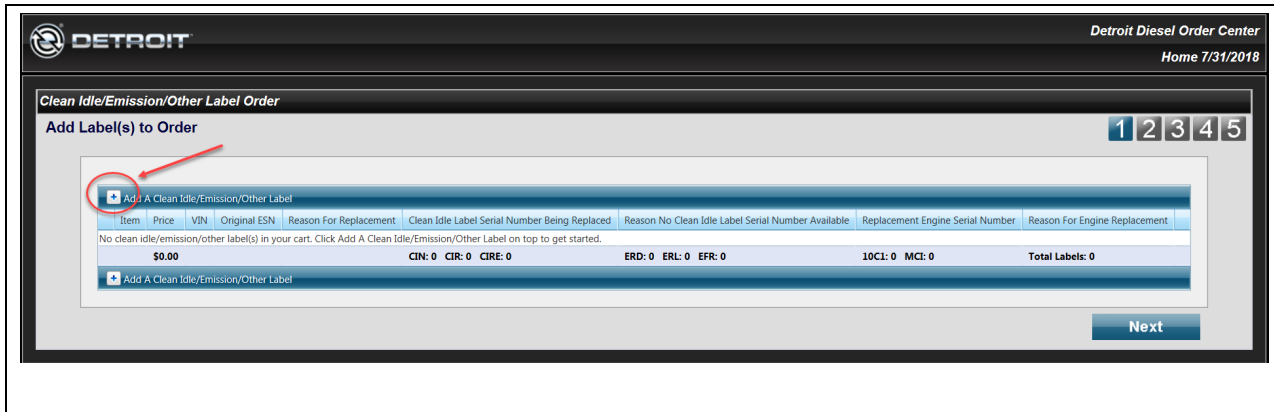

Fig. 10, Emission Label Ordering Process
2. Click the “+” icon next to “Add a Clean Idle / Emission / Other Label.” See Figure 10.